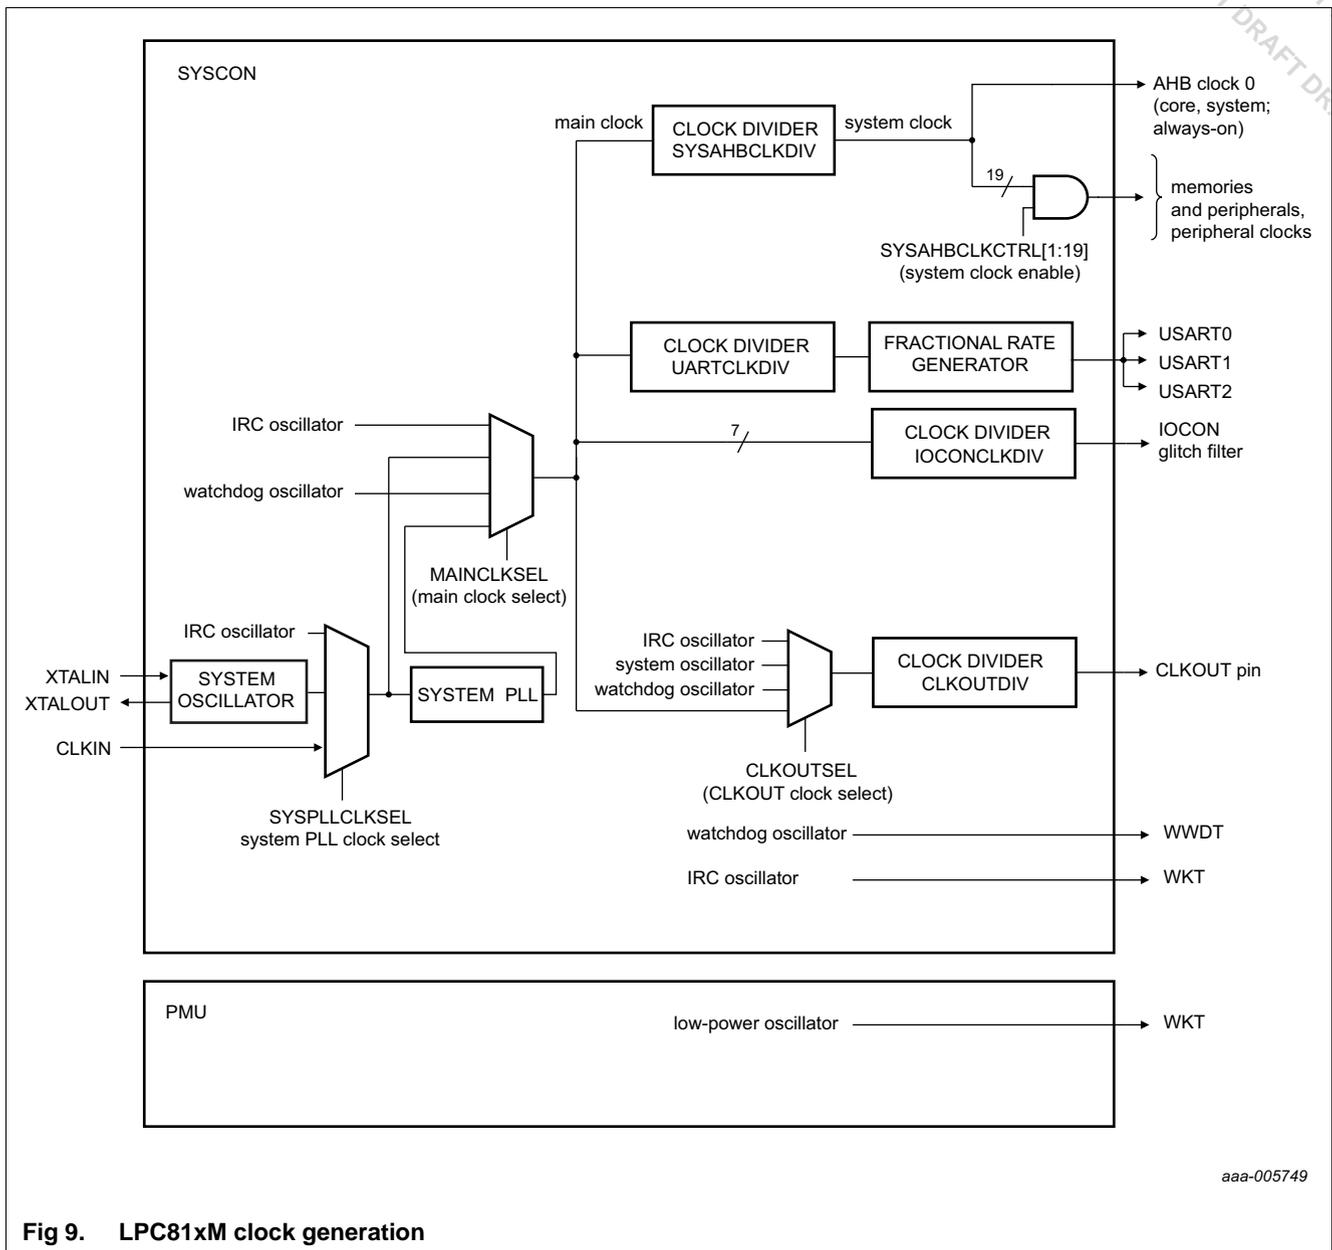

Fig 9. LPC81xM clock generation
- Program the input glitch filter with different filter constants using one of the IOCON divided clock signals (IOCONCLKCDIV, see Figure 9 “LPC81xM clock generation”). You can also bypass the glitch filter.